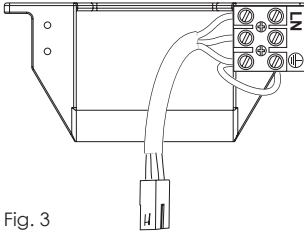

Fig. 3
3. Connect the supply wiring Active, Neutral and Earth into the terminal block on mounting bracket.(Fig.3)